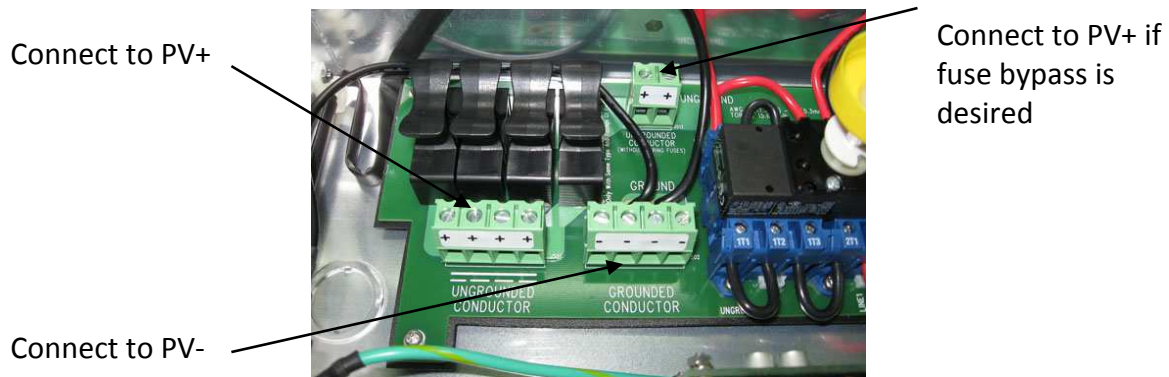

Figure 4.3.2 – DC Terminal Block for DC Wiring Connections
There are two (2) terminals, labeled “Ungrounded (+)” and “Grounded (-)”, per PV string located in the wiring box used for the DC connections as shown in Figure 4.3.2. The DC equipment ground wire shall be connected to a screw on the ground bar labeled in the wiring box of the PVI 3000S-5300 inverter. All the screws shall be tightened with a torque of 15.6 in-lb (1.7Nm)
If no (fused) combiner is required, as in the case of using a fused combiner other than the fused combiner inside the inverter, then the “Ungrounded (+)” bypass terminals (2) to the right of fuses can be used, as shown in Figure 4.3.2. Up to 2 PV circuits can be connected. The “Grounded (-)” connections are still to be connected to the “Grounded (-)” terminal block.